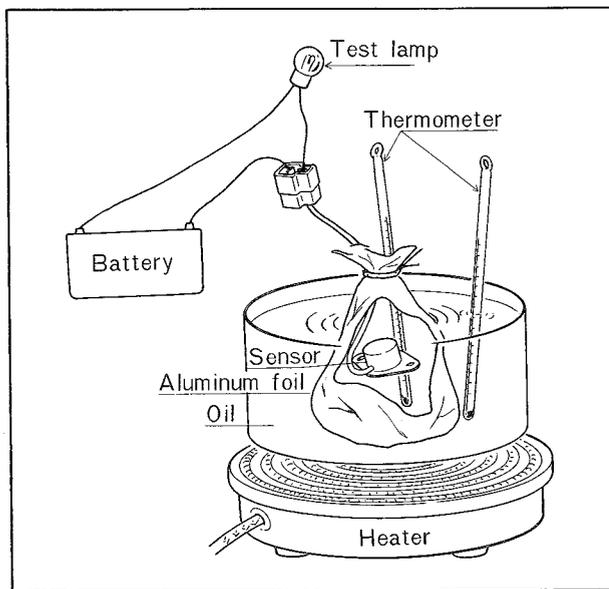

Fig. 1B-30 Checking sensor
3. Attach the test lamp to the sensor as shown in Fig. 1B-30.